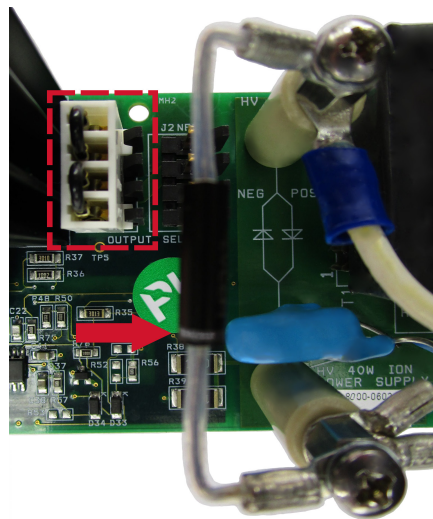

Figure 4. Component position for positive voltage output
6. Locate the HV diode. As shown in **Figure 4**, the HV diode is the electrical component identified by the arrow.